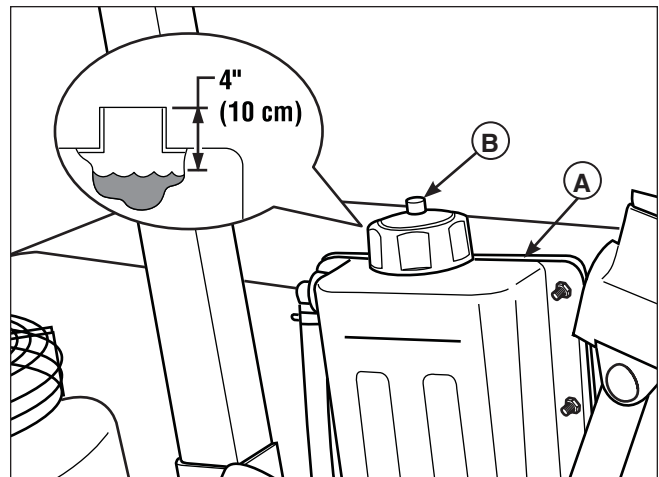

Figure 25. Checking Hydraulic Oil Level
2. Unscrew the reservoir cap (B, Figure 25).
3. Look down the filler neck of the hydraulic oil reservoir (A) and observe the oil level. When cold, the oil level should be approximately 4" (10 cm) below top of the filler neck.
4. If necessary, remove the reservoir cap (B) and add SAE 20W-50 motor oil.